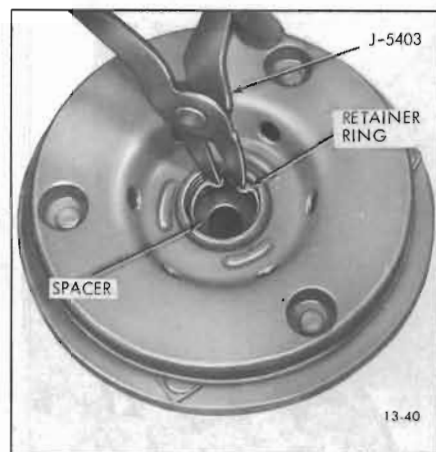

Figure 13-40—Removing or Installing Retainer Ring in Clutch Drive Plate
(see Figure 13-40). Lift out spacer.
9. Reassemble retainer ring into hub of clutch drive plate (see Figure 13-40) using No. 21 Truarc Pliers (J-5403).